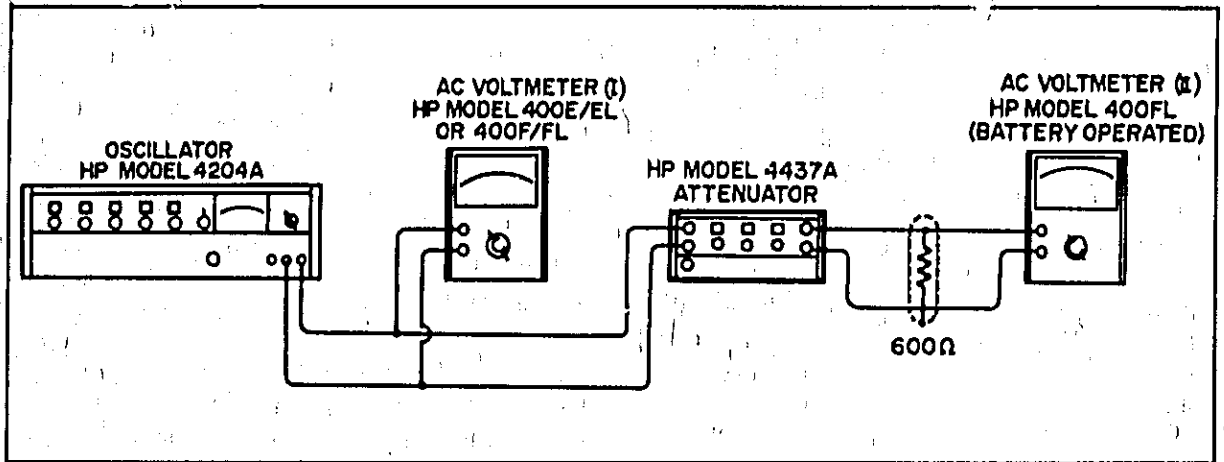

Figure 5-1. AC Performance Test Setup
5-11. The ac performance test setup is illustrated in Figure 5-1. An Oscillator (HP Model 4204A), an AC Voltmeter (HP Model 400E/EL or 400F/FL), and a battery operated AC Voltmeter (HP Model 400FL with external batteries) are required for this test. In addition, one 600-ohm 2-watt resistor is required. This resistor must be enclosed in a shield as shown in Figure 5-1. The range-to-range accuracy of the
- a. Arrange test setup as illustrated in Figure 5-1 and see paragraph 3-9.